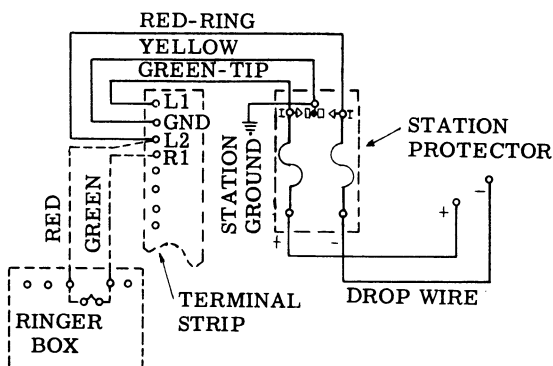

Fig. 1
- (1) Remove the upper housing from the paystation.
- (2) Use eight 1" x 14 F.H. galvanized wood screws to attach the lower housing to the backboard.
- (3) Make sure that the inside wire passes through the backplate slot without binding.
- (4) Use wood screws to mount the ringer box to the lower part of the backboard. Machine screws shall be used in booth installations.
- (5) Again be sure the inside wire is not bound as it enters the ringer.
- (6) Connect all wires as shown in FIG. 1.